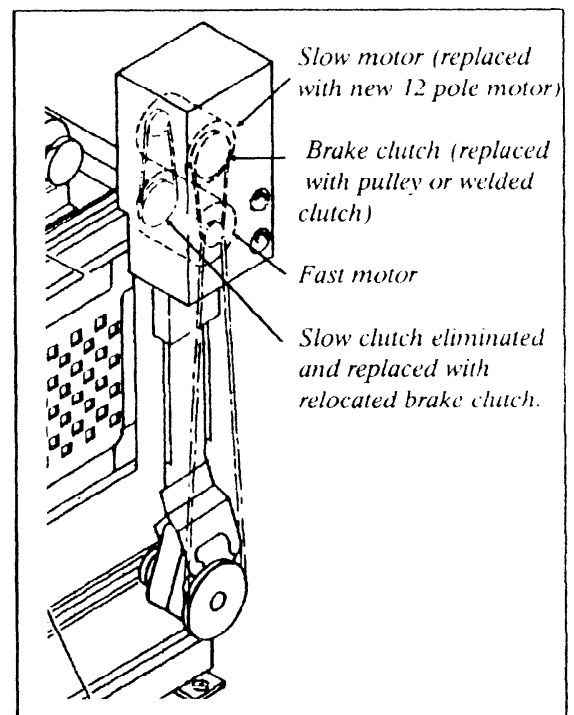

Figure 1 (MSSMD436AE)
It has been found that after 9 to 18 months, the slow clutch can wear enough to cause the sled to hit its mechanical stop, in turn causing the torque arm switch to actuate and shutting the press down. Referring to Figure 1, Press models now in production use a new 12 pole slow motor (P/N 39T007AAU) that need not be disengaged, eliminating the need for a slow clutch. A welded clutch or fixed pulley is installed where the brake clutch was located and the brake clutch is now moved to where the slow clutch was located.
1. Replace/relocate mechanical components in accordance with Figure 1.